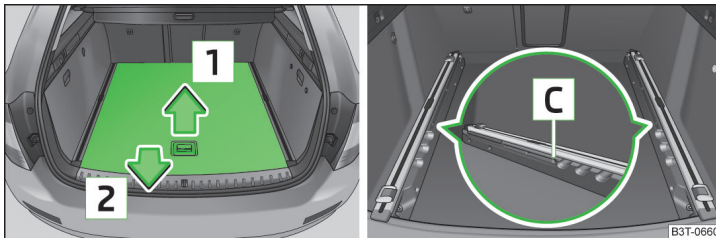

Fig. 112 Boot: partially pulling out the variable loading floor
- Grasp the rear of the variable loading floor by the handle and lift gently in the direction of the arrow **1** » Fig. 112.
- Grasp the rear of the variable loading floor by the handle and lift in the direction of the arrow **1** » Fig. 112 on page 103.